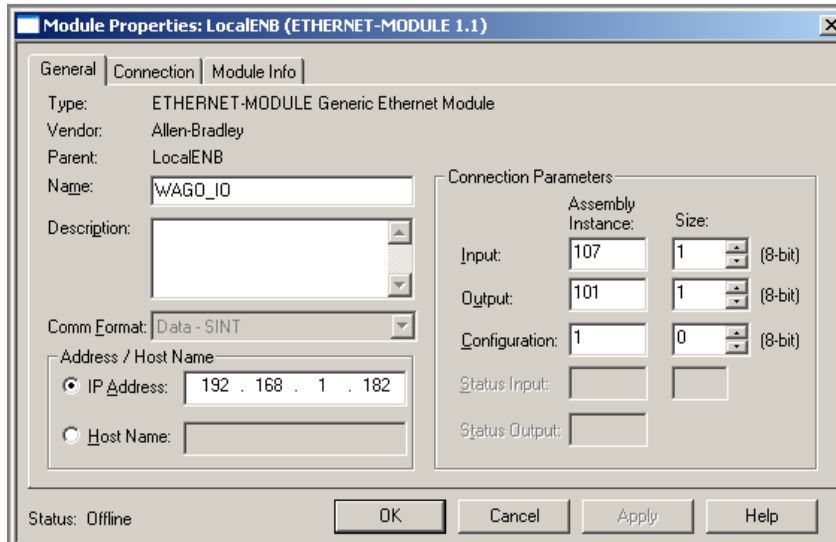

Fig. 8: Module properties of the WAGO I/O Adapter
2) Select **Generic Ethernet Module** from the list and click **OK**. The **Module Properties** dialog window is presented in Fig. 8. Enter the following parameters: